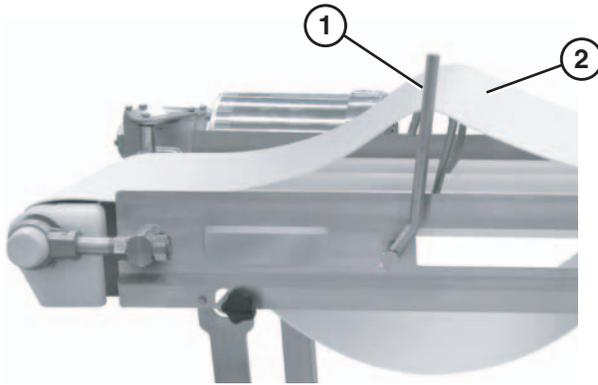

Figure 40
3. Use the lifter handle (**Figure 40, item 1**) to raise the belt (**Figure 40, item 2**).